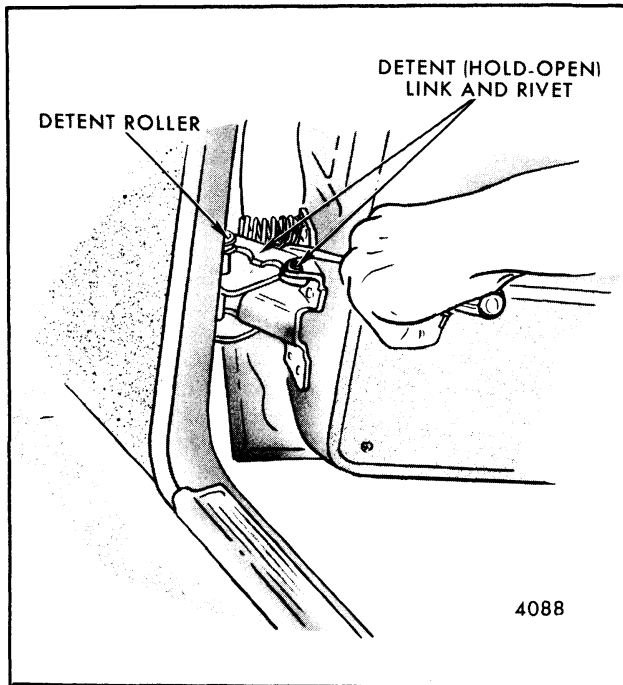

Fig. 5-58-Front Door Hinge "Hold-Open Spring" Removal
- Disengage door hold-open spring from lower hinge assembly by prying upward against spring with a suitable prying tool (Fig. 5-58). Use care not to damage hold-open link.